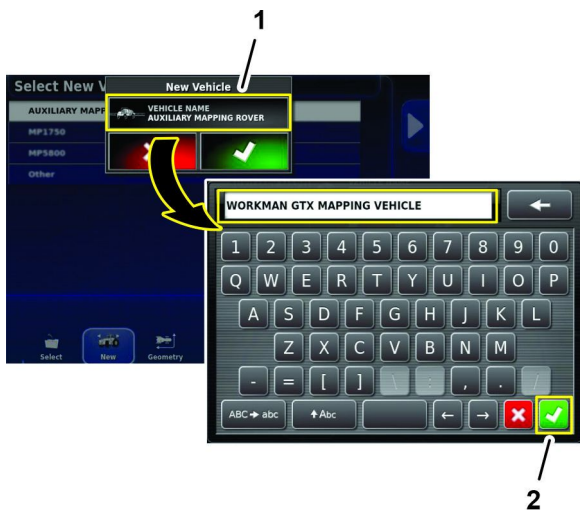

Figure 186
- In the new vehicle dialog box, press the VEHICLE NAME icon, use the on-screen keyboard to type a name for the mapping vehicle, and press the confirm icon (Figure 186).